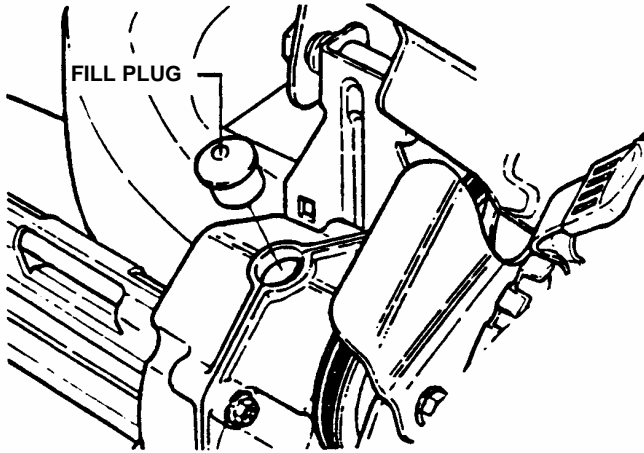

FIGURE 3.4
1. Roll machine and remove transmission fill plug. See Figure 3.4.